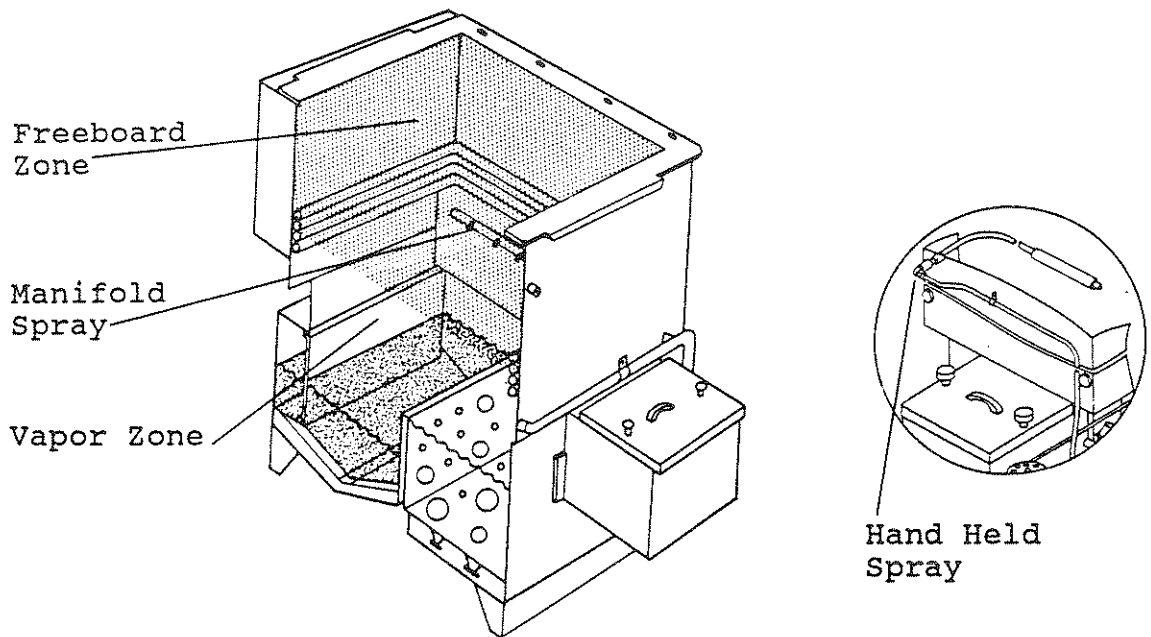

Figure 2-3: Ultrasonic Immersion-Vapor-Spray Technique
- . Ultrasonics can be added to the immersion sump to enhance the cleaning action (Figure 2-3).